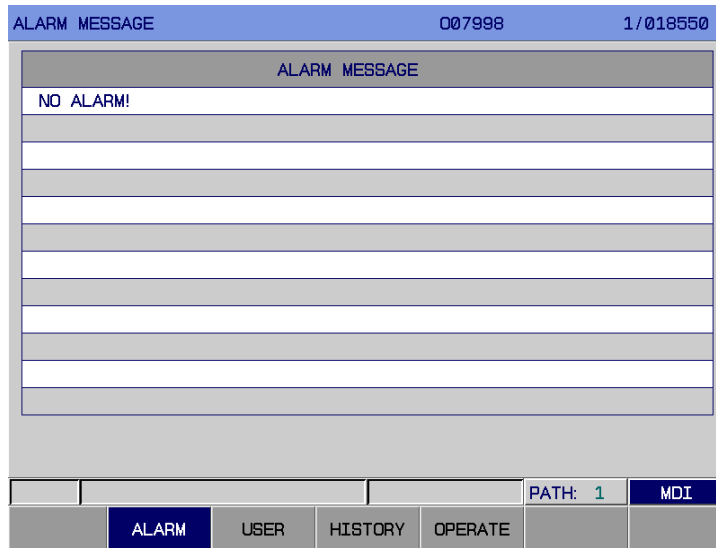
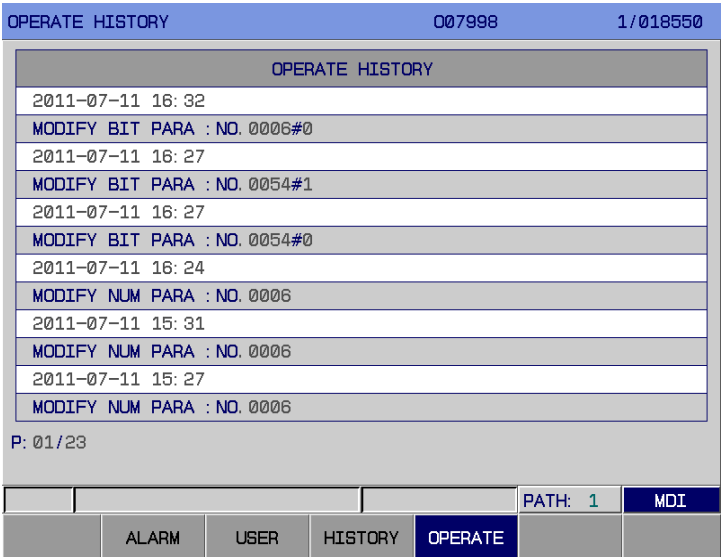

Fig. 3-7-1
Fig. 3-7-4
to display the alarm page. There are 4 subpages: **【ALARM】**, **【USER】**, **【HISTORY】** and **【OPERATE】**, all of which can be viewed by the corresponding soft keys (See Fig.3-7-1 to Fig.3-7-4). Whether the page is switched to alarm page when an alarm occurs can also be set by bit parameter No: 24#6.
1. Alarm page In <ALARM> page, press soft key **【ALARM】** to enter this page, as is shown in Fig.3-7-1:
4. OPERATE page In <ALARM> page, press soft key 【OPERATE】 to enter this page, as is shown in Fig. 3-7-4: